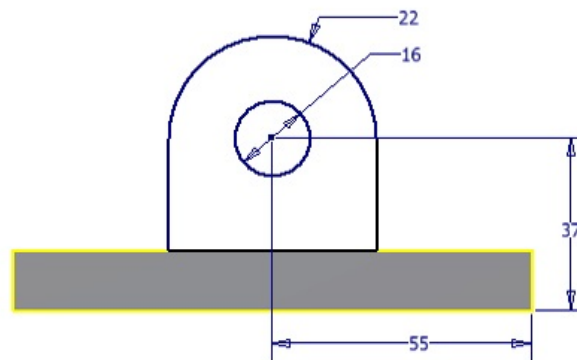

Figure 6-157 Sketch for the join feature
1. Define a new sketch plane on the back face of the base feature. Draw the sketch for the join feature and then add the required constraints and dimensions to it. The sketch after adding constraints and dimensions is shown in Figure 6-157.